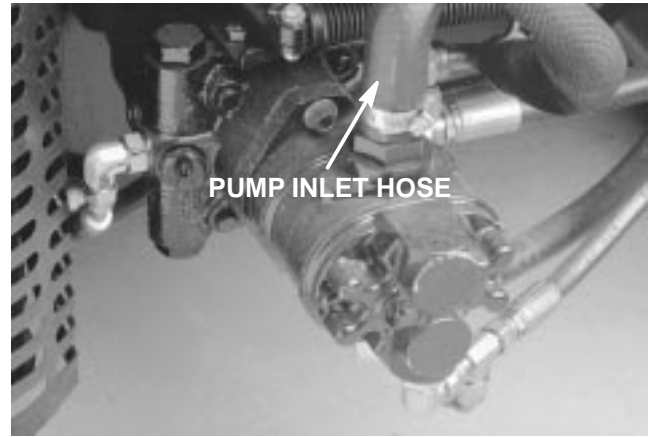

Figure 86
2. Clean oil filter assembly (8) and hose connection, hydraulic tank (6) and hose connections, and pump inlet hose connections at the hydrostat.
3. Place a suitable container under the hydrostat to collect hydraulic oil. Clamp pump inlet hose to prevent drainage. Remove pump inlet hose from hydrostat and direct to container. Release clamp from hose (Fig. 86).
8. Secure pump inlet hose to hydrostat with hose clamp (Fig. 86).